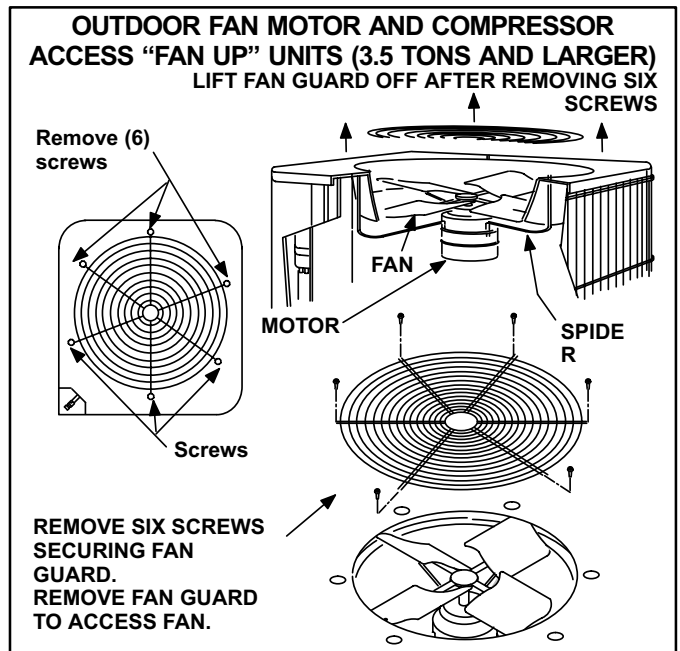

FIGURE 6
All units use single-phase PSC fan motors which require a run capacitor. The table on page 1 of this manual shows the specifications of condenser fans used in 10AC units. The condenser fan is controlled by the compressor contactor. Two different mounting arrangements are used (fan up and fan motor up) see figures 6 and 7.
Access to the condenser fan motor on all units is gained by removing the six (6) screws securing the fan guard. See figures 6 and 7.